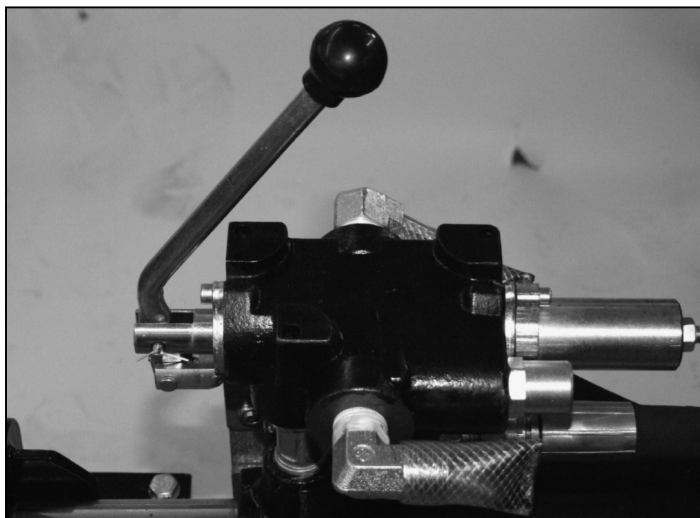

Figure 21
4. Install hydraulic valve control lever. Secure with pin and cotter key. **SEE FIGURE 21**